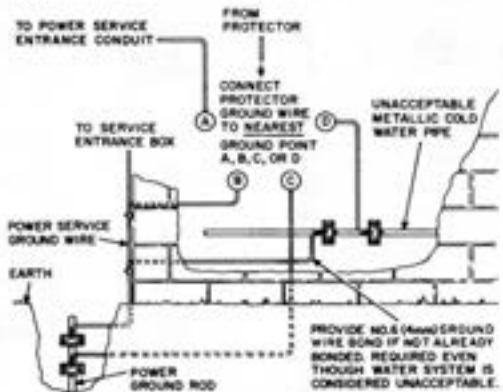
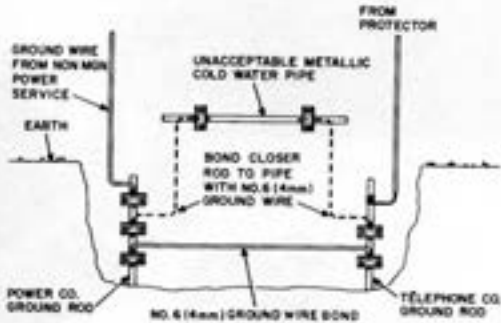

Fig. 48—Unacceptable Water System or Building Ground (Multigrounded Neutral Power System Grounded to Ground Rod)¶
Fig. 49—Unacceptable Water System or Building Ground (Nonmultigrounded Neutral Power System Grounded to Ground Rod)¶
6.06 Where the power is grounded to a ground rod and an acceptable water pipe or building ground does not exist, it is necessary to know if the power service is MGN (multigrounded neutral). This information should be obtained according to local instructions. Station protectors installed where an MGN power system is grounded to a ground rod should be grounded as shown in Fig. 48. Where a non-MGN power system is grounded to a ground rod, protectors should be grounded as shown in Fig. 49.